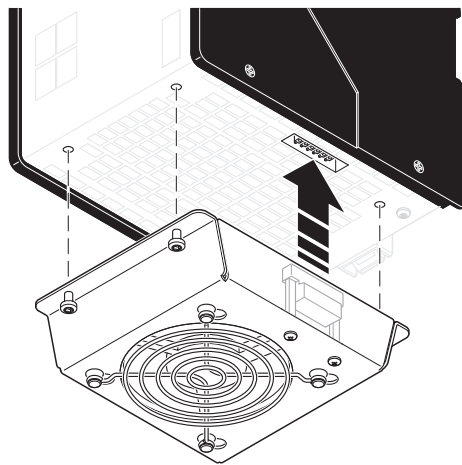

Figure 3-1 Mounting the RFC FAN MODULE fan module
Mount the fan module to the bottom of the RFC using the four screws, as shown in Figure 3-1.
- Position the fan module on the bottom of the RFC according to Figure 3-1.